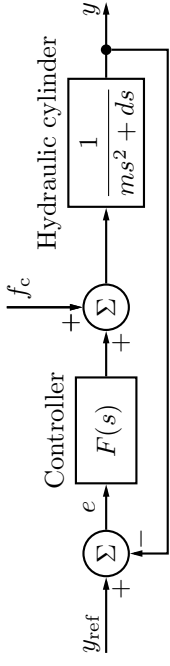

Figure 3.4a
3.4 Figure 3.4a shows the block diagram for a hydraulic servo system in an automatic lathe (Swedish: *svarv*). The output signal  $y(t)$  represents the position of the lathe tool (Swedish: *svarvstål*),  $y_{\text{ref}}(t)$  is the desired position of the lathe tool,  $m$  is the mass of the tool slide (Swedish: *verktygsslåd*) and the hydraulic piston (Swedish: *kolv*),  $d$  is the viscous damping of the tool slide,  $F(s)$  is the transfer function for the controller,  $f_c$  is the cutting power.